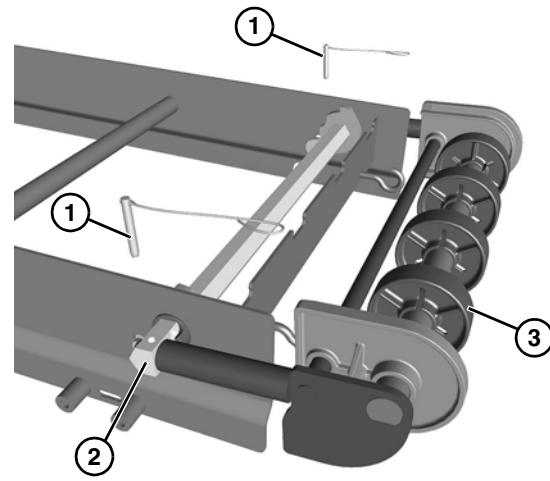

Figure 64
1. Remove the pull pins (Figure 64, item 1) from tip up hex shaft assembly (Figure 64, item 2).
2. Slide the idler tail assembly (Figure 64, item 3) out of the tip up hex shaft assembly.